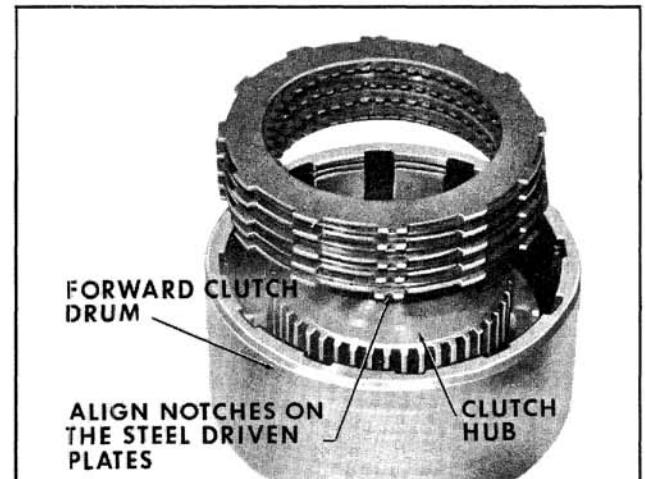

Fig. 6-449 Installing Clutch Pack
9. Align notches on steel driven plates. Install steel driven plates and lined drive plates alternately, beginning with a steel driven plate. (Fig. 6-449)